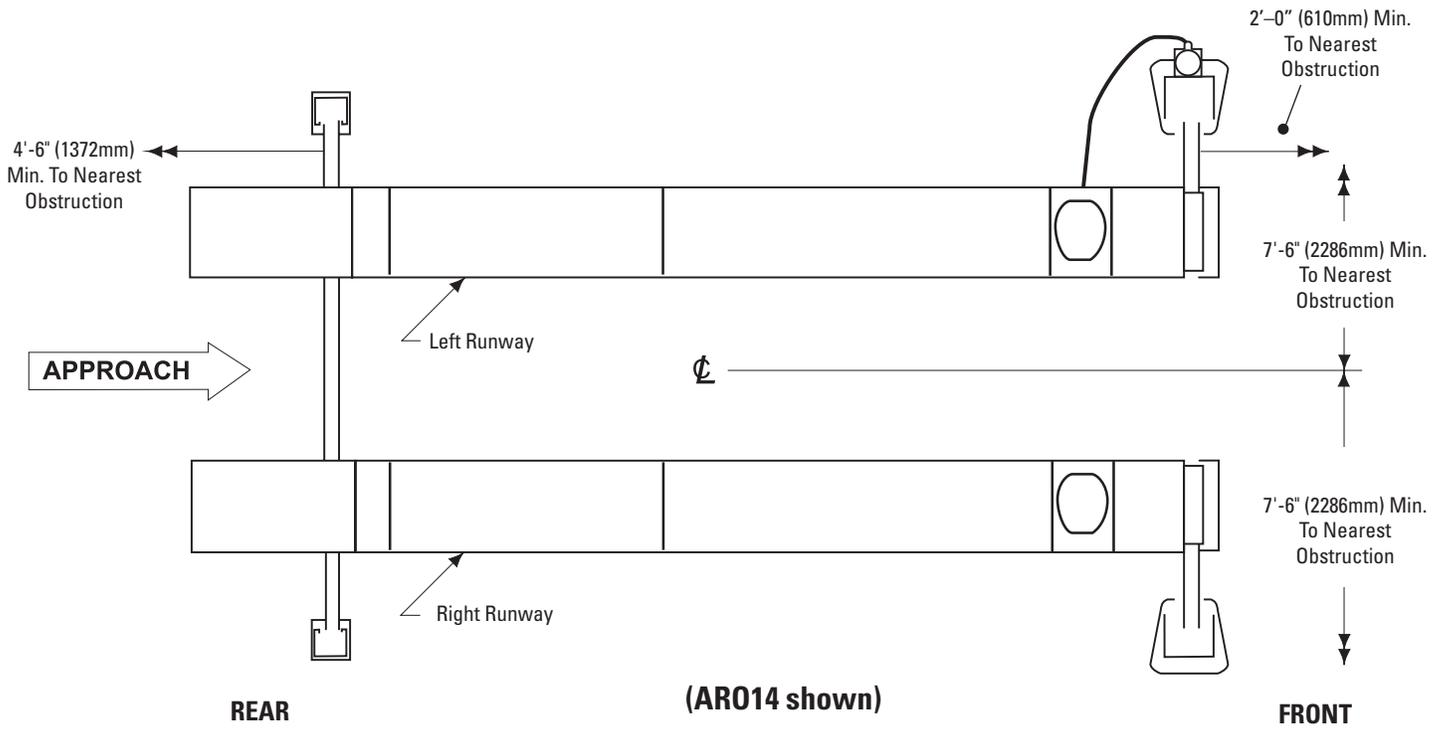

Fig. 1
- Lift Location:** Use architects plan when available to locate lift. Fig. 1 shows dimensions of a typical bay layout. Lift floor area should be level.